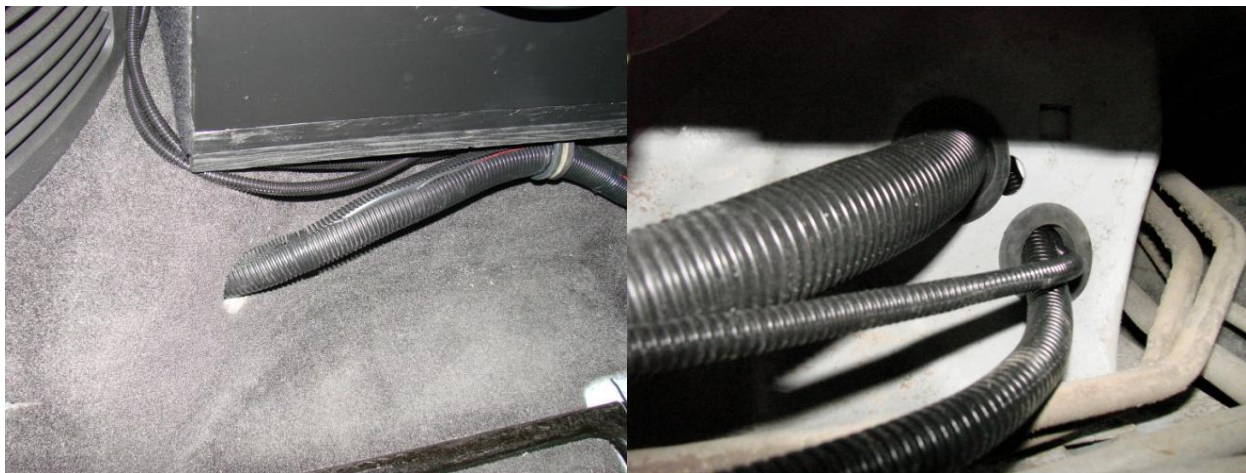

Figure 19 - Cable Management
4. Run the cable neatly inside and underneath the vehicle, along the frame where possible, to the gauge mounting plate. Do not tug or run into a location where the cables can be scraped, cut, or melted by vehicle components. See Figure 19 above for proper cable management.